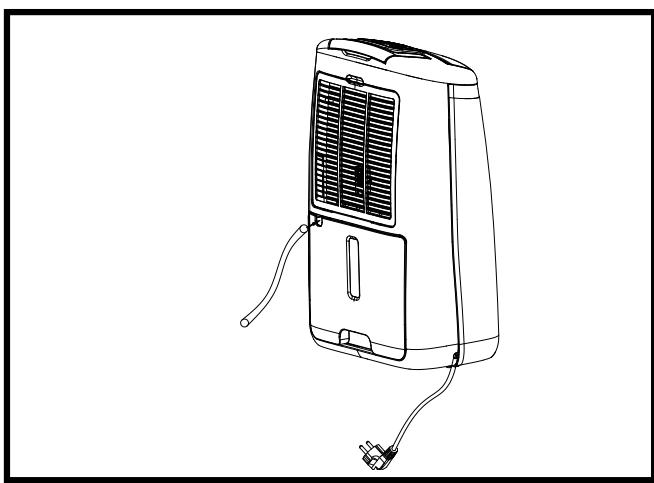

Fig. 6
2. Connect the drain hole with water tube of inner diameter: 11 mm. The water tube is not supplied with the unit (FIG. 6).